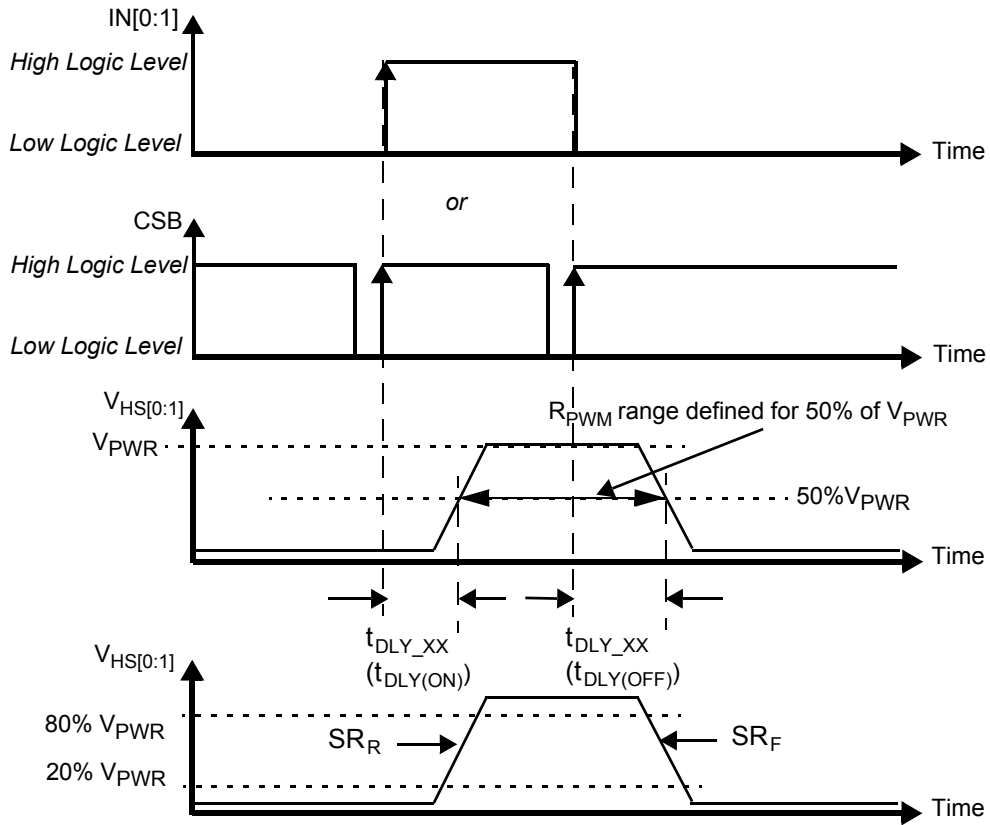
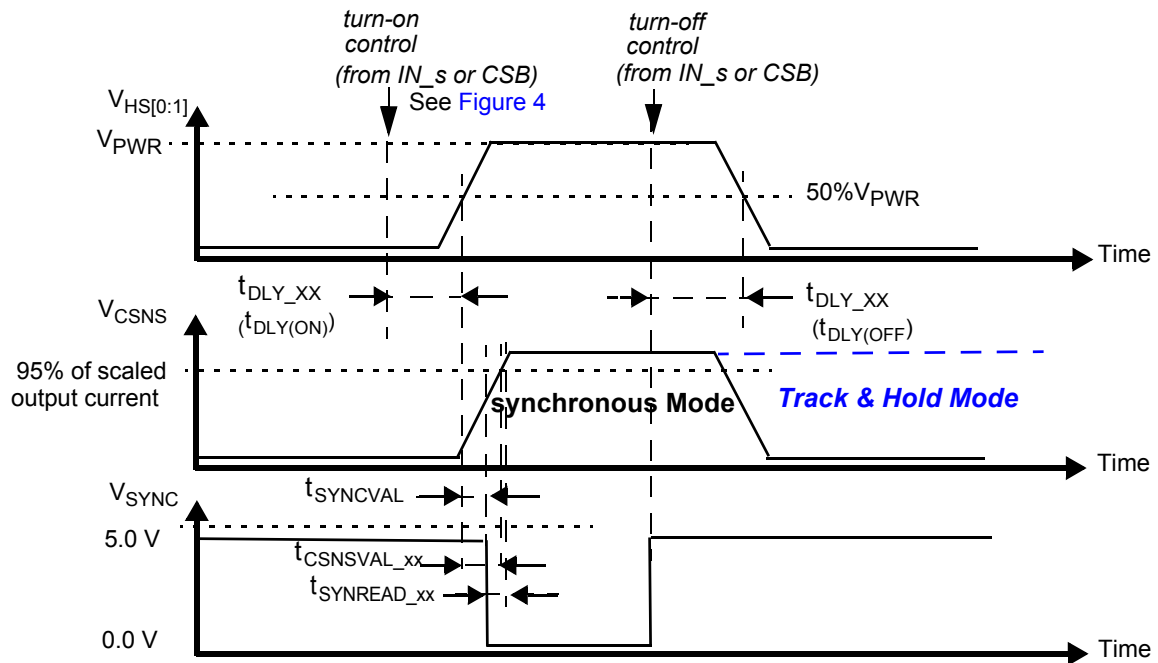

Figure 4. Output Voltage Slew Rate and Delay
Figure 9. Synchronous & Track-and-Hold Current Sensing Modes: Associated Delay & Settling Times
30. Rising and Falling edge slew rates specified for a 20% to 80% voltage variation on a 10.0  $\Omega$  resistive load (see Figure 4).
32. Time required to switch off the channel after detection of overtemperature (OT), overcurrent (OC), SC or UV error (time measured between start of the negative edge on the FSB pin and the falling edge on the output voltage until  $V(\text{HS}[0:1]) = 50\%$  of  $V_{PWR}$ ).
34. Settling time ( $= t_{CSNSVAL\_XX}$ ), SYNC output signal delay ( $= t_{SYNCVAL\_XX}$ ) and Read-out delay ( $= t_{SYNREAD\_XX}$ ) are defined for a stepped load current using a 10  $\Omega$  resistive load for  $\text{CSNS\_RATIO\_s} = 0$ . (see Figure 9 and Output Current Monitoring \(CSNS\)).
To synchronize current sensing with an external process, the SYNC signal can be connected to a digital input of an external MCU. SYNC is asserted logic low when the current sense signal is accurate and ready to be read. The current sense signal on the CSNS pin has the specified accuracy  $t_{SYNCREAD\_XX}$  seconds after the falling edge on the SYNC pin (Figure 9) and remains valid until a rising edge is generated. The rising edge that is generated by the SYNC pin at the turn-OFF instant (internal or external) may also be used to implement synchronization with the external MCU. Parameter  $t_{SYNCCVAL\_XX}$  is defined as the time between the instant at the middle of the output-voltage rising edge ( $HS[0:1] = 50\%$  of  $V_{PWR}$ ), and the instant at which the voltage on the SYNC-pin drops below 0.4 V ( $V_{SOL}$ ). The SYNC pins of different devices can be connected together to save micro-controller input channels. However, in this configuration, the CSNS function of only one device should be active at a time. Otherwise, the MCU does not determine the origin of the SYNC signal. The SYNC pin is open drain and requires an external pull-up resistor to  $V_{DD}$ .